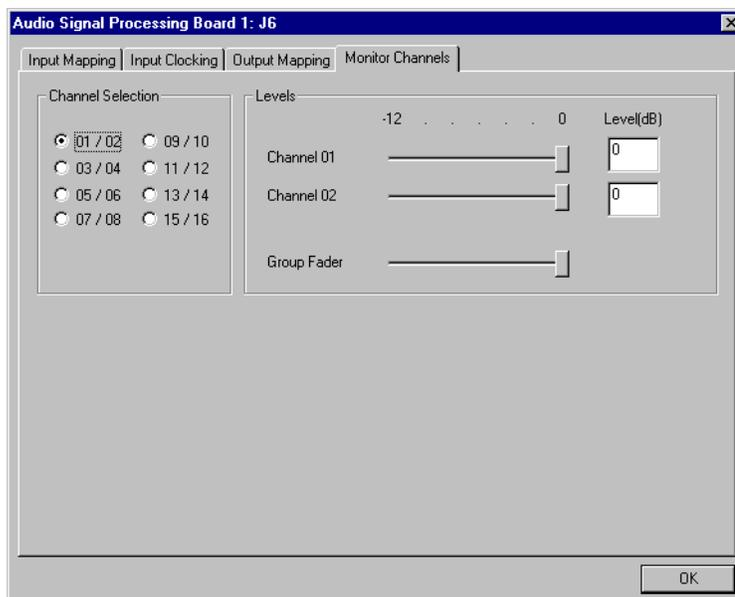

Figure 39. Audio Configuration dialog box, Monitor Channels tab
1. Choose **Option | Audio Configuration Board 1 or 2** or click an ASPB Configuration button. The Audio Configuration dialog box appears (Figure 39).